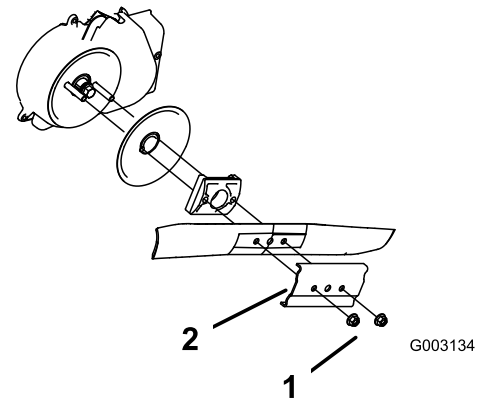

Figure 41
3. Remove the 2 blade nuts and the stiffener (Figure 41).
4. Remove the blade (Figure 41).
5. Remove the blade driver and disk (Figure 41).
6. Remove the blade brake-clutch shield (Figure 41).
10. Install the blade and the stiffener that you previously removed (Figure 41).